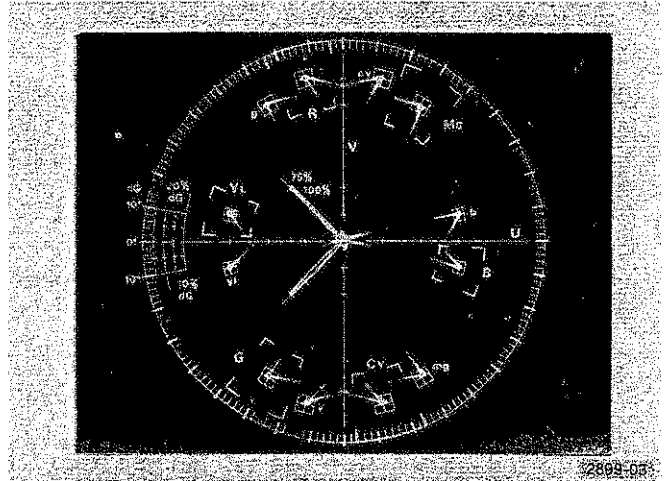
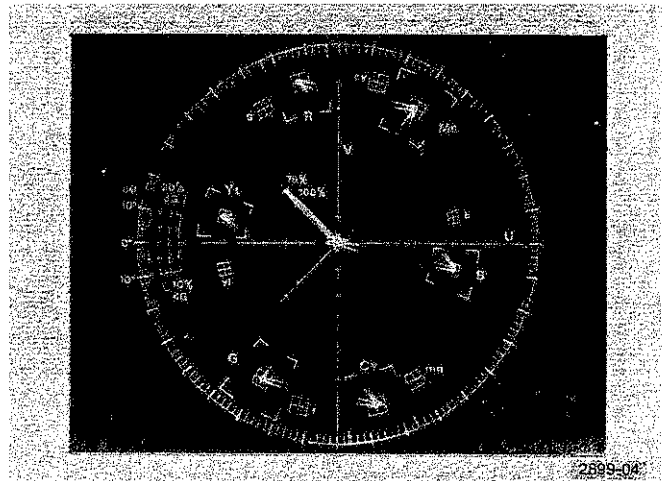

Fig. 2-3. 1421, 1422 PAL color bar vector display.
Fig. 2-4. 1421, 1422 PAL color bar NTSC vector display.
The other function this switch provides is either a PAL VECTOR or NTSC VECTOR display. The PAL VECTOR position displays a normal PAL signal with alternating burst and chrominance phase (see Fig. 2-3). The NTSC VECTOR position enables the 180° phase switcher. This allows the overlaying of the -V phase on the +V phase display (see Fig. 2-4).
c. Rotate PHASE to place the burst vectors on their graticule marks (see Fig. 2-3).
d. Set the Vectorscope ϕ REF switch to B VECTOR NTSC. The 180° switcher in the demodulator is now running, causing the -V burst and the chrominance vectors associated with it to be switched in phase and overlaid with the +V burst and chrominance. See Fig. 2-4. This feature is particularly useful in studio source phasing, where all input signals to the studio switcher can be displayed in turn, and phase errors removed by adjusting source phasing for overlay of the Vectorscope display. Source phasing, using this feature, also assumes accurate burst quadrature.
a. Set the Vectorscope ϕ REF switch to A VECTOR PAL. Chrominance information in Channel B is now demodulated with reference to the subcarrier phase in Channel A. The display on the Vectorscope should be the same as illustrated in Fig. 2-3. Some phase jitter will be noticed in this mode of operation, because the Sync Stripper circuit does not receive or regenerate composite sync. The H Regenerator free-runs at about 15 kHz, but not at exact line sync time. As a result, timing signals generated with reference to the H Regenerator are not exact.